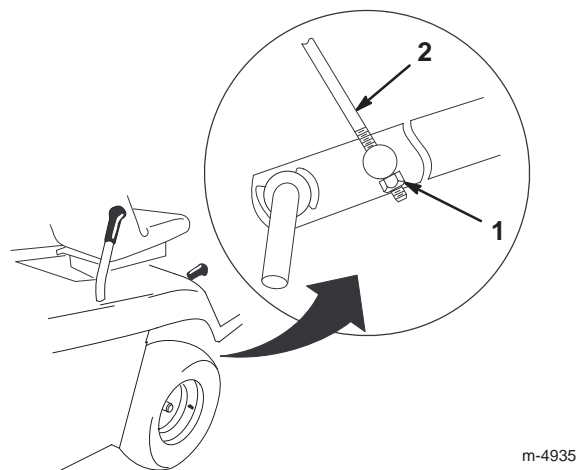

Figure 41
9. Adjust the M8 locknut at the end of the height adjustment rod assembly until the rod is slightly taut (Fig. 41).